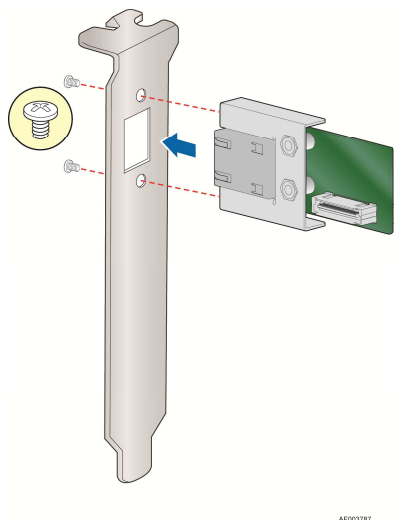

Figure 20: Mounting the Intel® Dedicated Server Management NIC Module to the PCI Slot Bracket
3. Secure the metal fastening bracket with the NIC module to the PCI slot bracket with two screws as shown in Figure 20. This will align the RJ-45 with the opening in the PCI slot bracket.